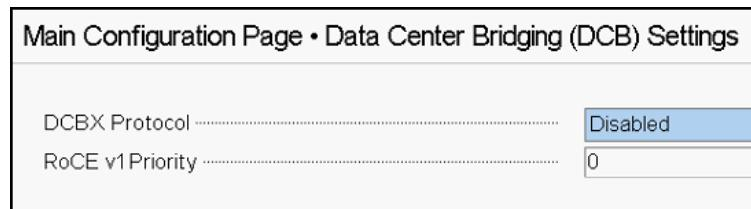

Figure 5-8. System Setup: Data Center Bridging (DCB) Settings
2. On the Data Center Bridging (DCB) Settings page (Figure 5-8), select the appropriate **DCBX Protocol** option: